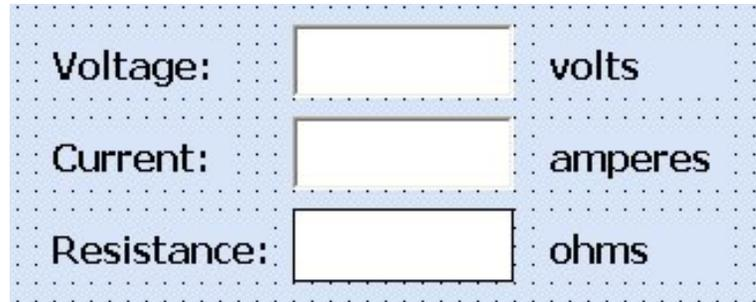

Figure A.16 – Placing another Label on the Form
Some labels on a form are in a position to display an answer after the user inputs data and they press the command button to execute the application. To add this label, press the Label (A) button on the Control Toolbar to add a label. To size the label area, click on the upper left area of the form and hold down on the left mouse button, draw the dotted label box as shown in Figure A.16.